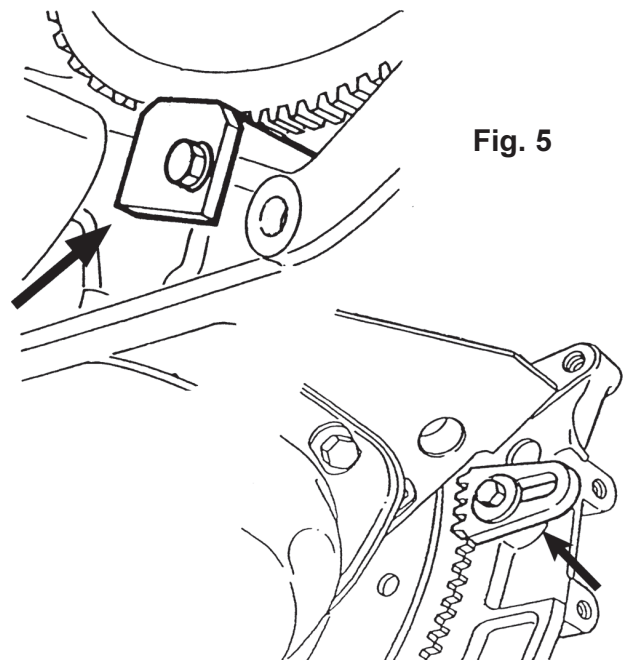

Fig. 5
4.3 VS1283 and VS1402/03 Flywheel Holding Tools - Associated Tools - not included in kit (Fig.5)